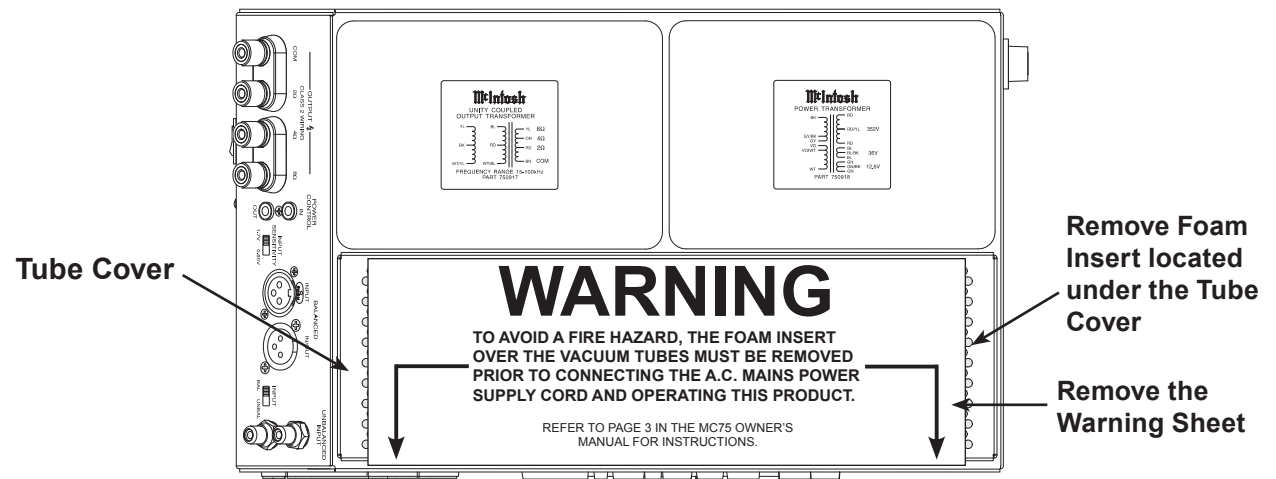

Figure 1
1. Orient the MC75 so the Front is facing you and remove the Warning Sheet. Refer to figure 1.